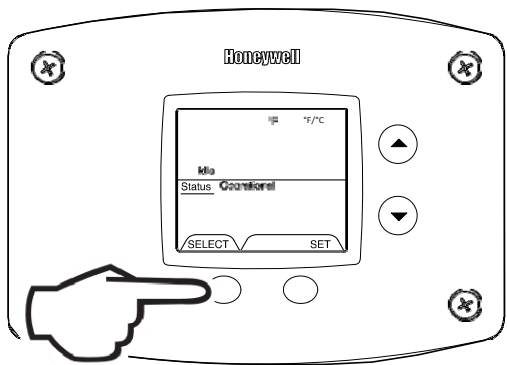

Fig. 20
3. Change temperature format from °F to °C by following the steps in Fig. 20 on page 28.
1. Press 'SELECT' button until °F/°C is displayed (Fig. 20).